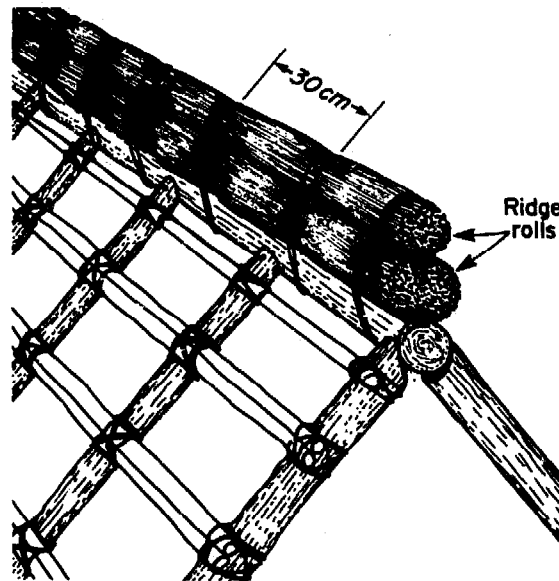

Fig. 5:6 The ridge roll.
8. After both sides of the roof are covered, the ridge must be sealed. The purpose of the ridge is to cover and protect the exposed grass and fixings of the top course of thatch. Various materials can be used. Figure 5:7 shows several different ridging methods. If grass is used it must be flexible enough to be bent over the roof apex without breaking. Soaking it may make it flexible. A grass ridge is secured by stitching, but it is advisable to use non-corrosive metal wire for maximum durability. Alternatively, the ridge may be made of metal sheet, held by stitching to the upper batten through holes punched in the lower edge. A cement mortar capping, reinforced with wire mesh (ferrocement) may also serve as the ridge.